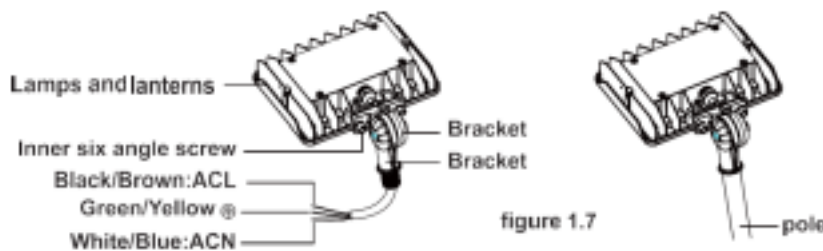

figure 1.7
Step 2: Finish the wire connection according to the right mode of connection (pay attention to positive wire, negative wire, and ground wire), and then put wire into lamp pole; (figure 1.7)